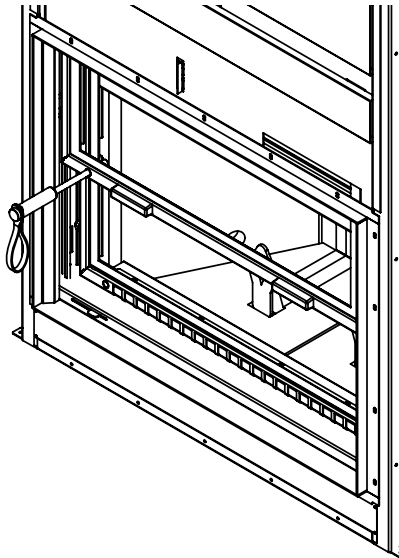

FIG.1
4. Unscrew the top and bottom retainers inside the door frame. **(FIG.1)**
2. Lift the screen. From inside the appliance, lower the screen (**FIG.1**).